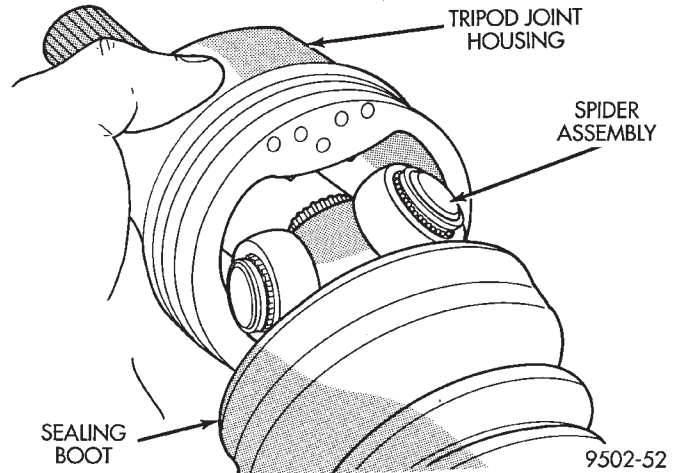

Fig. 27 Spider Assembly Removal from Tripod Joint Housing
(3) Slide the tripod joint housing off the spider assembly and the interconnecting shaft (Fig. 27).